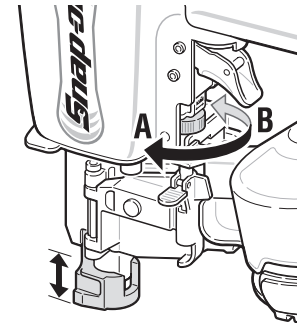

Figure 1
Adjust the depth of nailing by turning the adjustment knob (Figure 1, Item 1) to the left (A) for the deepest setting and to the right (B) for the shallowest setting. To increase the depth of the nails, when the adjustment knob is already set to its highest setting, increase the air pressure. To decrease the depth of nails when the adjustment knob is already set to its lowest setting, decrease the air pressure. Should nails be driven too deep even when the adjustment knob is set at its lowest setting, decrease the air pressure. In general, the roofing nailer will have a longer service life when the adjustment knob is set a lower setting causing less wear and tear on the driving mechanism.